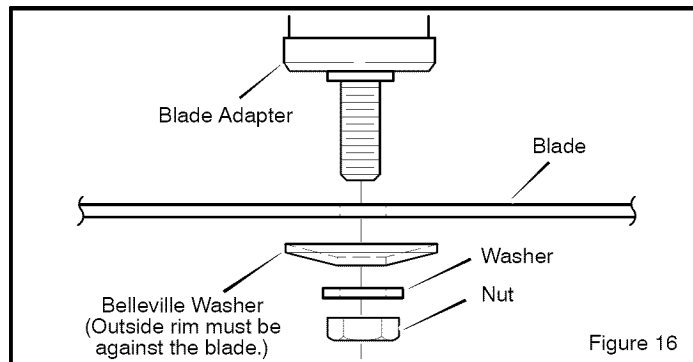

Figure 16
3. Fasten the **blade** with the original washers and **nut**. Make sure the outside rim of the **Belleville washer** is against the **blade** (Figure 16).